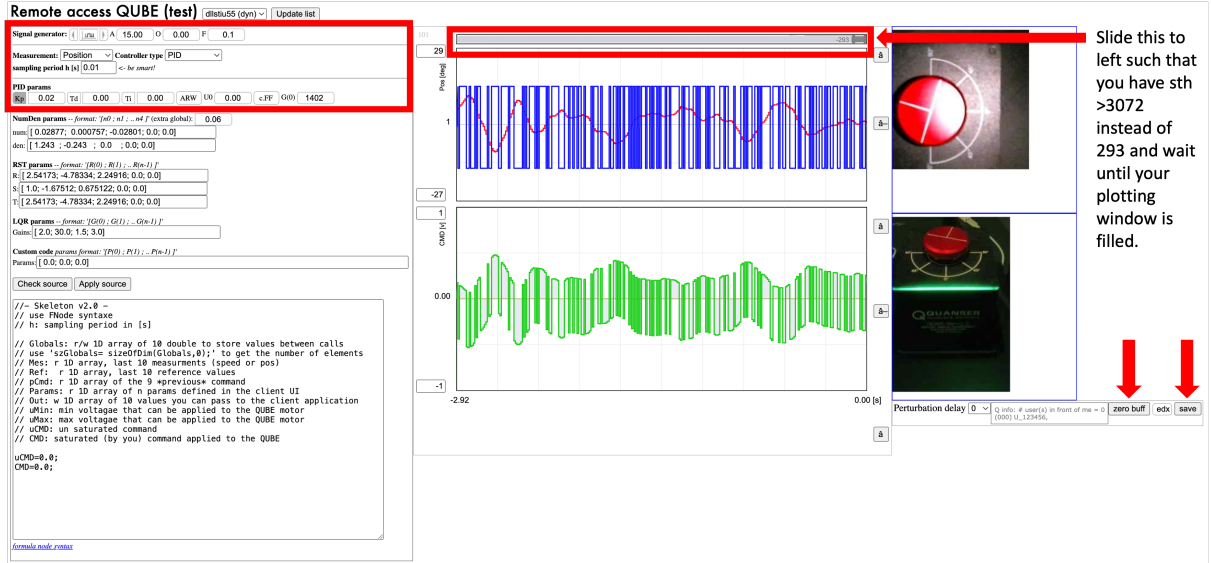

Figure 2. GUI for data collection with remote access.
The GUI with the correct settings will be as presented in Figure 2 where also the input output signals and a live video of your setup are being displayed.
3. Once the the settings are done click on the “**zero buff**” button to clear the previous data. Wait until you have at least 3072 new samples and then click on the “**save**” button to download the data into your PC. (You can check how many samples you have after the zero buff by using the slider on top of the plots, see Figure 2).